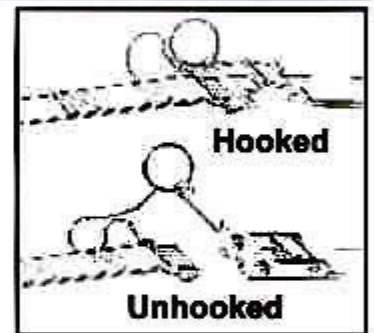

Figure 3 - Hooking the Flat Hook to the Cinch Buckle
Step 5: While standing on the ground depress the buckle release button on the first section and extend the 1" wide tree strap long enough to wrap the cinch buckle end of the strap around the tree trunk. Now place the flat hook inside the end of the cinch buckle and hook it on the flat cross bar at the end of the buckle. (refer to Figure 3)